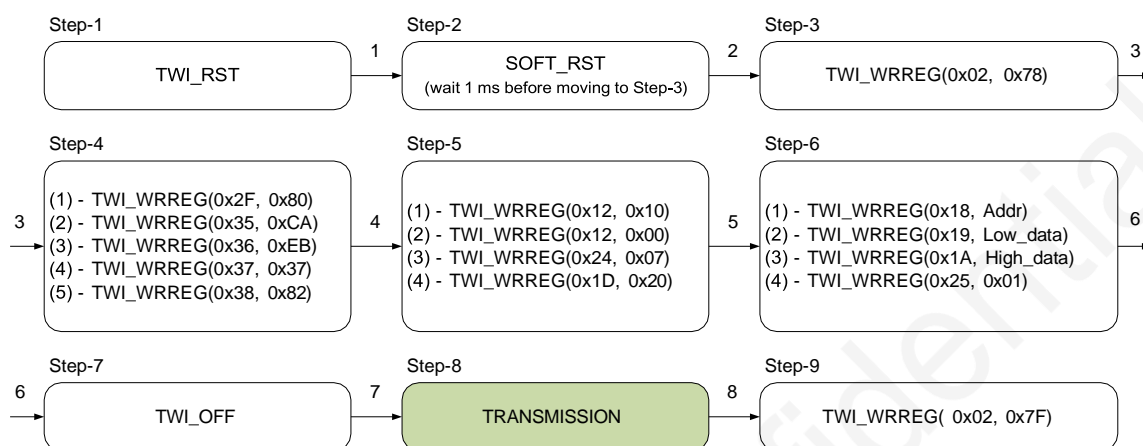

Figure 25. On-line Register Configuration Flow
- Apply the corresponding register value and address in the flow shown in Figure 25.